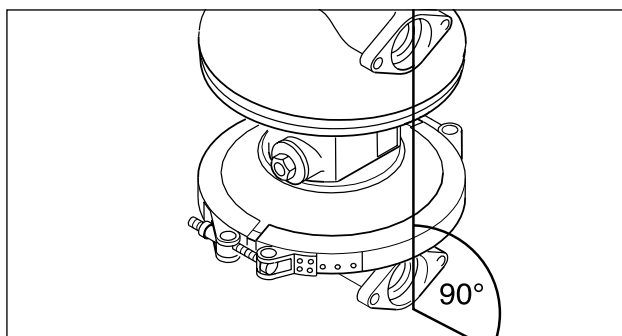
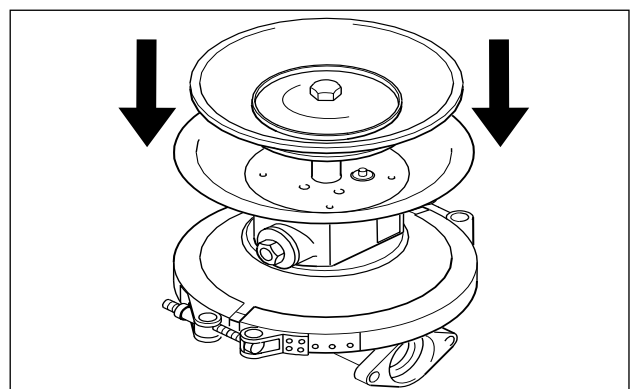

Fig. 7: Alignment of pump chambers
Fig. 15: Assembly of second pump chamber
- Assembly of the pump chamber: Assembly of diaphragm, fixation by fastening the outer diaphragm plate according to page 48 ff "Tightening torques". The pump chambers must generally be assembled with the diaphragm in suction position (Press diaphragm plate into air chamber) (Fig. 15). Fasten clamp band or mounting flange. Assemble the second diaphragm in the same way. The flange face of the pump housing must be in line (Fig. 7).